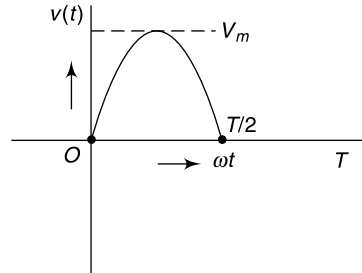

Fig. 5.70 Waveform for Ex. 5.113
5.113 For the waveform shown in Fig. 5.70, find the average and rms values for full cycle.